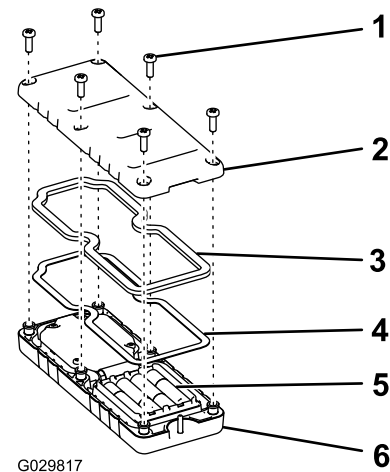

Figure 35
1. Remove the 6 screws from the back of the remote and remove the cover (**Figure 35**).
5. Replace the cover and secure it with the 6 screws removed previously (**Figure 35**) and torque them to 1.5 to 1.7 N·m (13 to 15 in-lb).